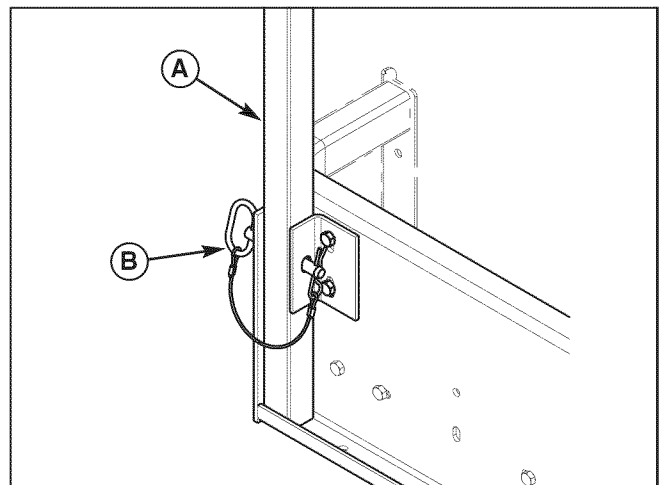

Figure 58. Remove the Hitch Pins
8. Remove the hitch pins (B, Figure 58) securing the bagger mount posts (A) to the mount plate.